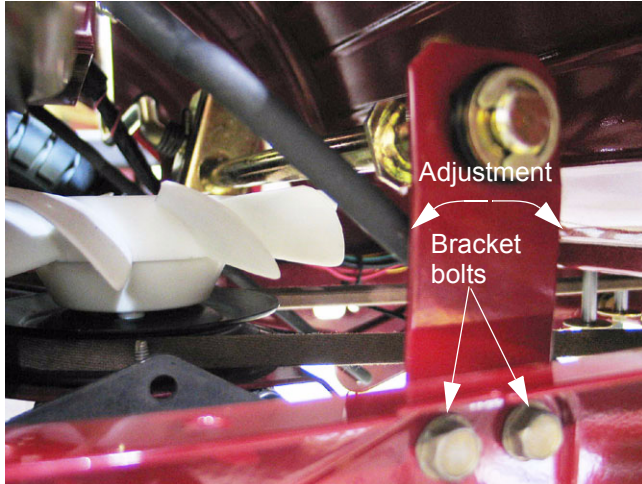

Figure 7.4
- 7.4. The pitch on the threads of the rod is 16 threads per inch. If an adjustment of less than 1/16" is needed, the bolts that secure the mounting bracket to the frame can be loosened slightly for adjustment. See Figure 7.4.